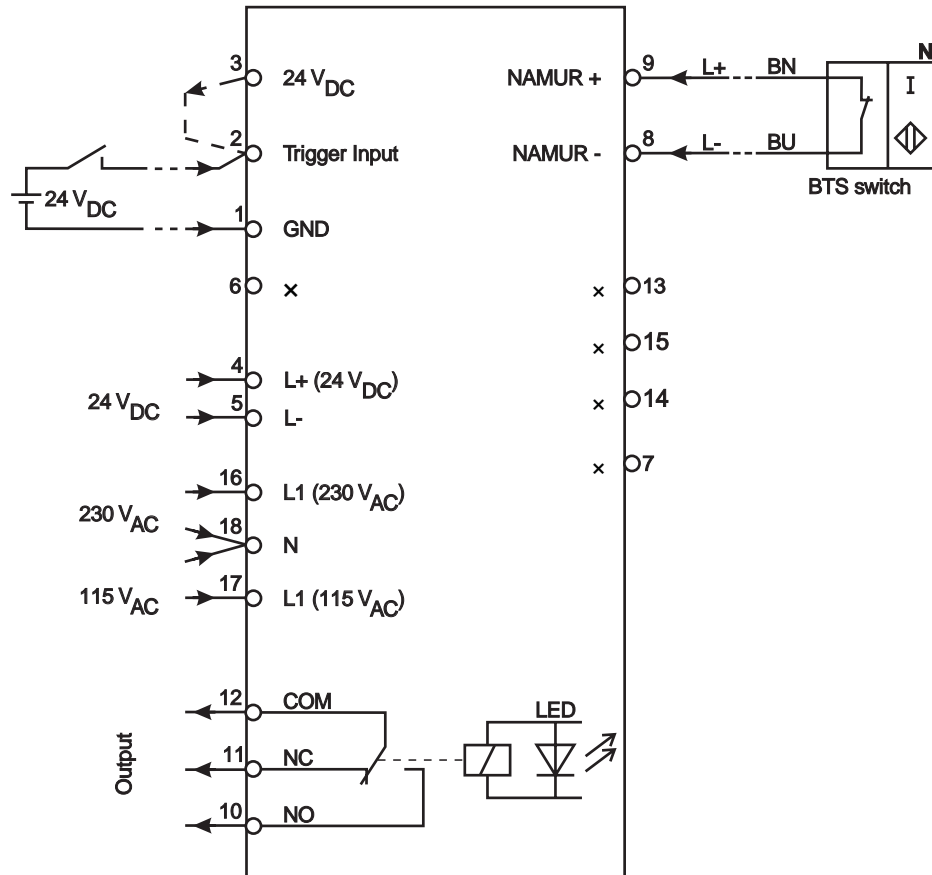

Fig. 12: Wiring diagram for BTS/MTS speed monitor
1. Install the speed monitor in a suitable switch cabinet and connect as shown in the wiring diagram (Fig. 12).